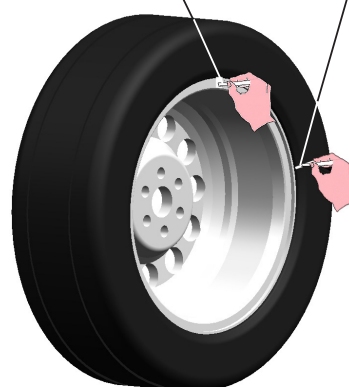

Fig. 58
- Cancel the previously made reference marks. Make new marks, as described hereinafter, on wheel TYRE and RIM (see Fig. 58).